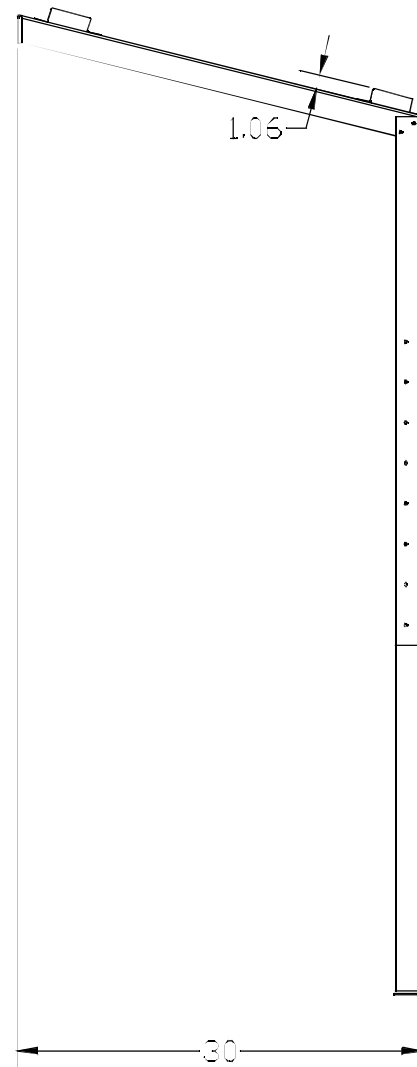

Figure 2
2. Prior to the start of assembly, measure the wall where the Kool-Cel® system is to be installed to establish the height requirement for the support. **CAUTION:** Be sure to allow for thickness of roofing material (supplied by others) and height of purlins as shown in Figure 2.